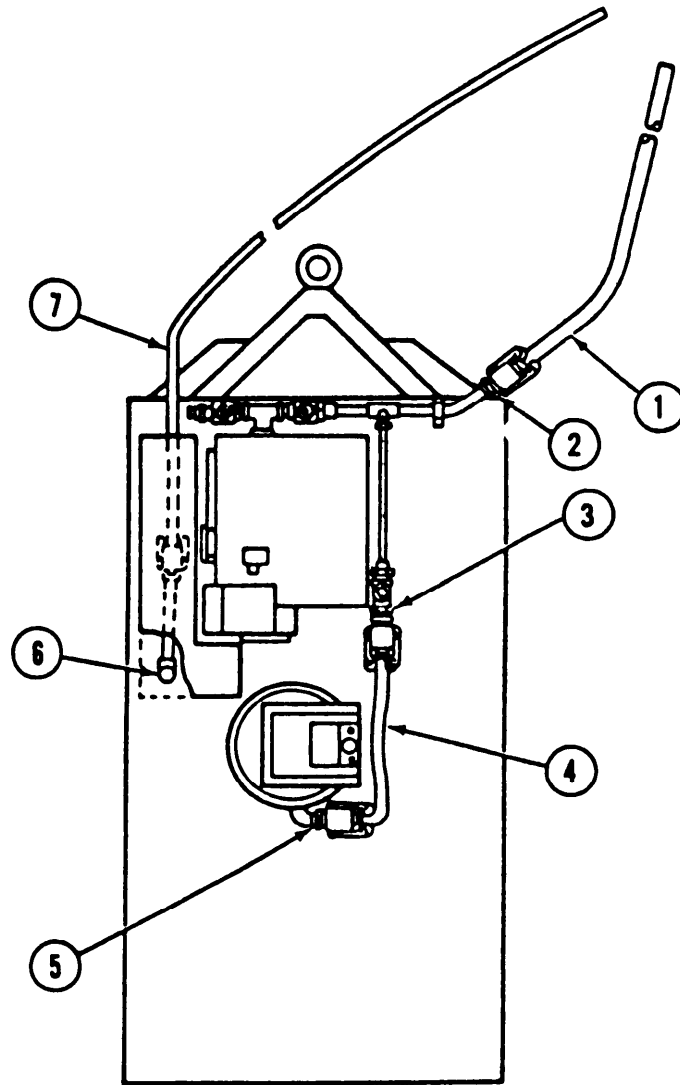

Figure 2-10. Drain Hose Connection Diagram
- (10) Be sure petcock valve (11) on water pump housing is closed. Clockwise rotation closes valve.
- (11) Be sure petcock valve (4) drain valve (5) and vent valve (15) on the water heater are closed. Clockwise rotation closes valve.
- (12) Be sure washer inlet hose (2) is connected to washer inlet (1) and to water heater outlet (3).
- (13) Be sure that hose (14) from water heater inlet (13) is connected.
- (14) Be sure that drain hose (4, figure 2-10) is connected to extractor drain connection (5) and washer drain connection (3).
Be sure that drain hoses (1 and 7, figure 2-10) do not touch or cross other water hoses, power cables, exhaust ducts, or fuel lines. Melting/damage can occur causing leaking fuel and water or electrical hazards. Death by electrocution, fire, or explosion could result.